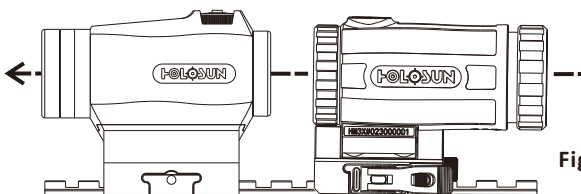

Figure 2
1. Combine the HM3XT with a HOLOSUN sight for improved target identification at distance. (as shown in Figure 2)